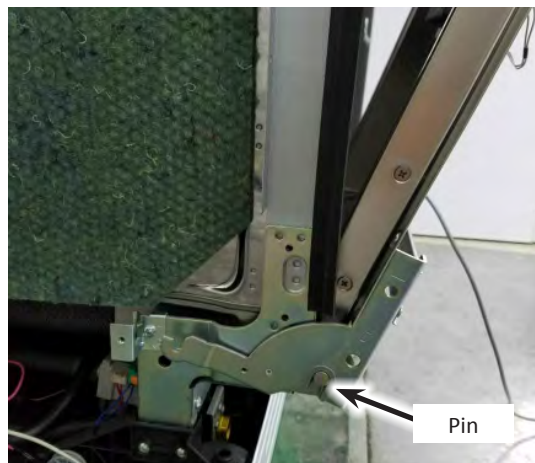

Figure 4
7. Open the inner door approximately 10° and lift the door until the door hinge separates from the pin. See Figure 4.